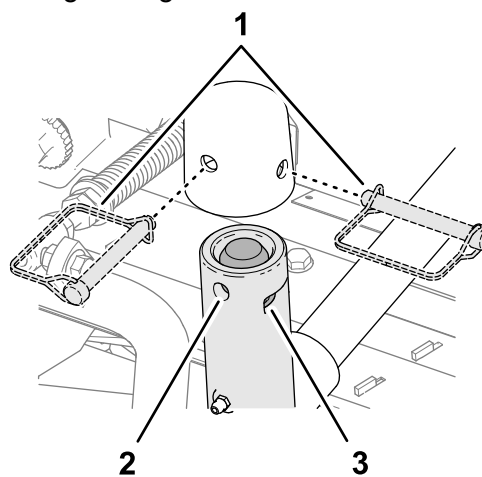

**Figure 23**
- Slide a cutting unit under the lift arm (Figure 23).